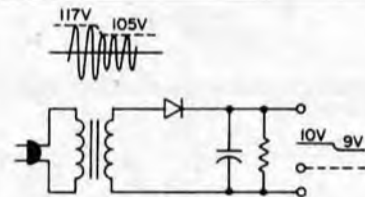

Fig. 16—Changing amplitude of voltage input to power supply provides changed (modulated) output.
**The Detector—Heart of the Receiver.** By looking at Fig. 13, you can see the detector is the heart of the AM receiver which extracts the original signal from the amplitude-modulated carrier. The circuit that does this job is surprisingly simple. It resembles very closely the circuit of a typical power supply. In an AC power supply, when 117-volts AC is applied at the input plug, a DC voltage appears at the output. If, because of a brown-out or for some other reason, the 117 volts of the input drops to, say, 105 volts, the DC output will drop correspondingly. In a power supply, this output drop is undesirable—we want the DC output to remain constant even though the input AC varies. Notice that the drop in voltage of the 60-Hz power line input from 117 volts to 105 volts is *actually amplitude modulation*, of the 60-Hz input sine wave, and the drop in the output DC has "detected" the AM that occurred at the input! This is shown in Fig. 16.